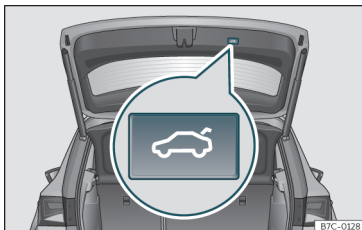

Fig. 114 Rear lid open: button to close rear lid immediately.
- Briefly press the  button on the rear lid >>> **Fig. 114** >>> .
Throughout the process of opening or closing the rear lid, acoustic warnings can be heard. Exception: when the rear lid is opened manually using the handle or the Easy Open function with the movement of the foot or closed using the button on the rear lid itself »» Fig. 114.
- Press the  button »» Fig. 114 on the rear lid for at least 3 seconds.